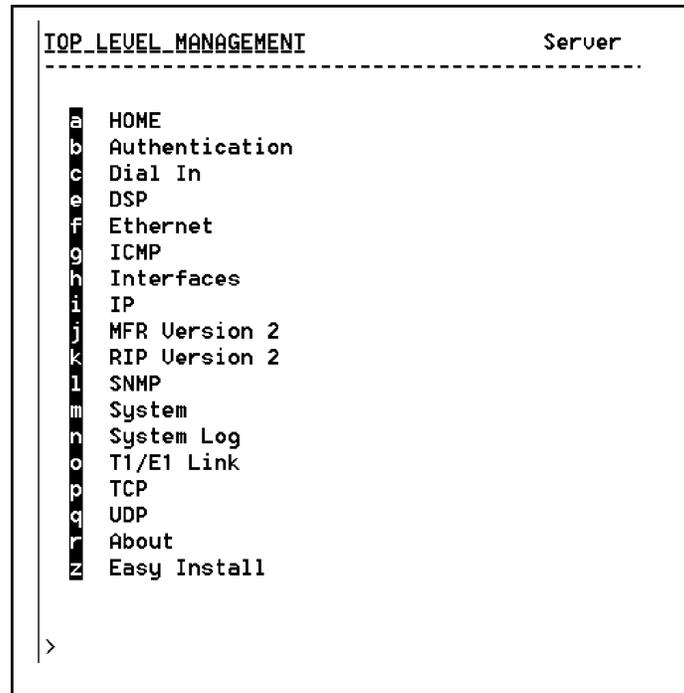

Figure 42. VT-100 Top Level Management window
5. Type **superuser** as the default username and password, then press <RETURN>. The *Top Level Management* window displays (see figure 42).